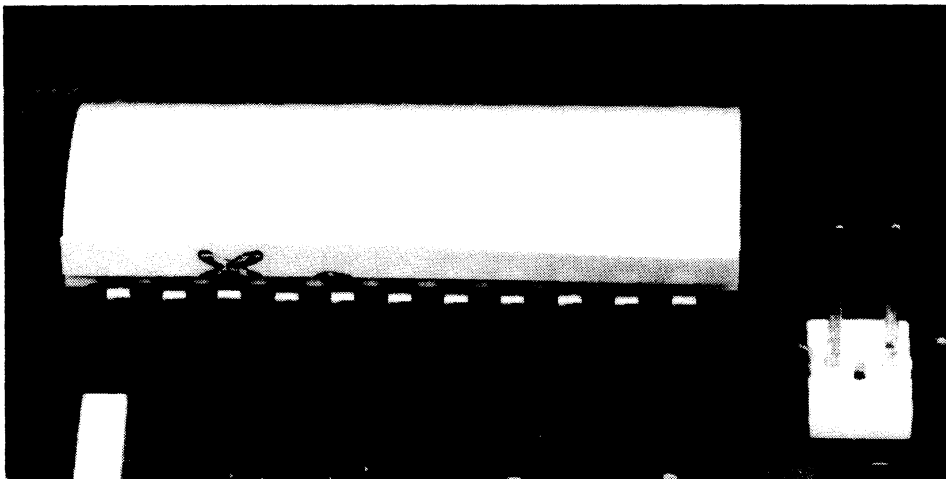
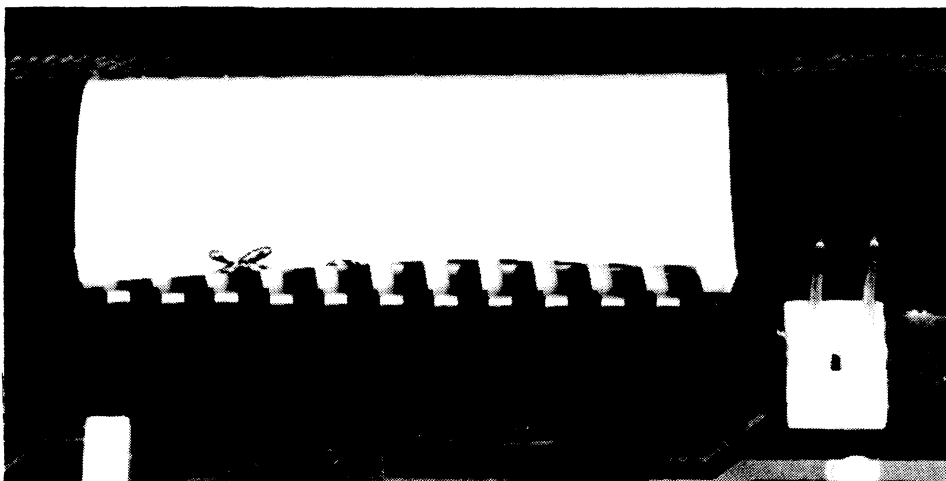

Figure 3-2. Cable Connected Properly
Figure 3-3. Cable Misaligned
- c. Make sure that the cable contacts are properly aligned with the connector contacts and that neither edge of the cable is folded over. Figure 3-2 shows a cable connected properly. Figure 3-3 shows a cable misaligned, and figure 3-4 shows a cable connected with an edge folded over.